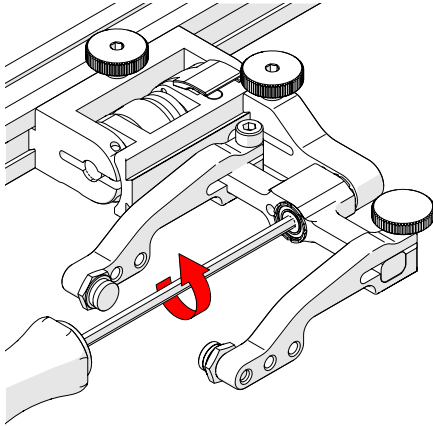

Fig. 146 - Unscrew yoke pivot screw
1. Unscrew the yoke from the swing arm (*Fig. 146*).